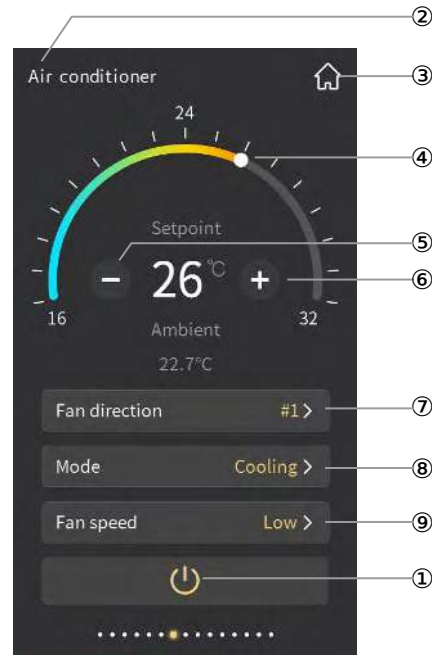

Fig.2.4.1
- ② This area displays the page description identification of Air-Conditioner control, user can define the description through ETS;
- ③ Return to Home page by touching this icon;
- ④ Adjust the setting temperature by sliding this ring slider;
- ⑤ The function of this icon is to decrease the temperature;
- ⑥ The function of this icon is to increase the temperature.
Adjusting the temperature by sliding the ring slider④ or touching the icon⑤ and icon⑥. For each touching of icon⑤ and icon⑥, the adjustment range is 1.0 degrees. When the setting temperature unit is set to degrees Celsius(°C), as shown in Fig. 2.4.1, adjustment range of the setting temperature is 16~32°C by default; when the setting temperature unit is set to Fahrenheit(°F), the current temperature value will automatically convert to Fahrenheit value, as shown in Fig.2.4.2, adjustment range of the setting temperature is 61~90°F by default. The temperature adjustment range can be modified through parameter setting.
Under fixed fan direction, select one of the 5 options (#1,#2,#3,#4,#5) for fan direction position, for instance, select #1, interface as shown in Fig.2.4.3, then touch the area outside the sub-window to return the previous level function page, the position selected will be shown on the fan direction area of the function page, as shown in Fig.2.4.1. For swing fan direction, because fan direction change all the time, there would be no fixed position, only display character "Swing" on the interface.
Fan speed adjustment of fan direction set to be disable or enable by parameter configuration. When disable, there will be no fan speed item shown on the interface, as shown in Fig.2.4.1; when enable, fan direction can be adjusted.